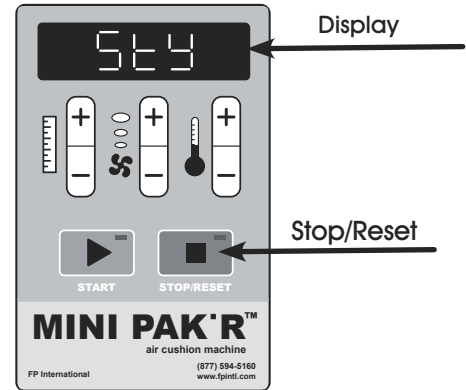

Figure 10
1. Display shows "Sty." (See Figure 10)
2. Press the **STOP/RESET** button to resume air cushion production. (See Figure 10)